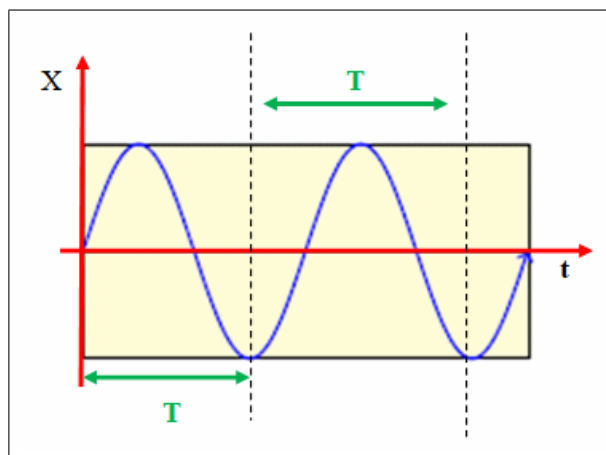

Figure 6.4: Period (T).
The Period (T) is the time interval that elapses between two consecutive, identical states of vibration (Figure 6.4).